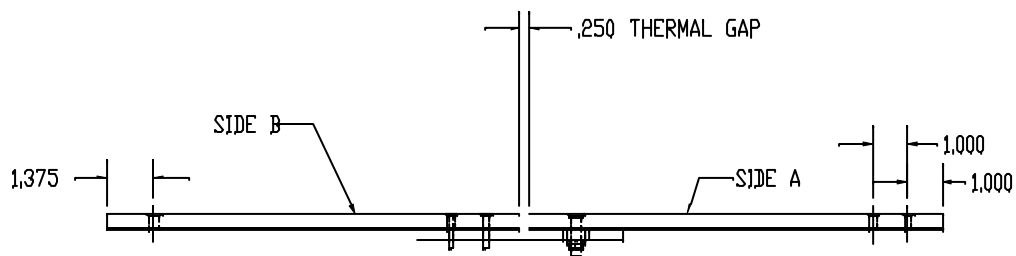

Figure 4
STEP 4. Using the self-tapping screws provided, attach the Side B cover plate to the splice bar, see Figure 4. Ensure that the Side A cover plate and the Side B cover plate remain properly aligned and at the proper distance from one another (1/4" gap).